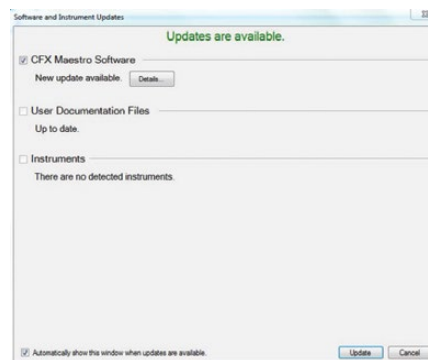

Fig. 6. Update dialog box.
2. If an update is available, a dialog box will prompt you to update the software and instrument. Click Update (Figure 6).